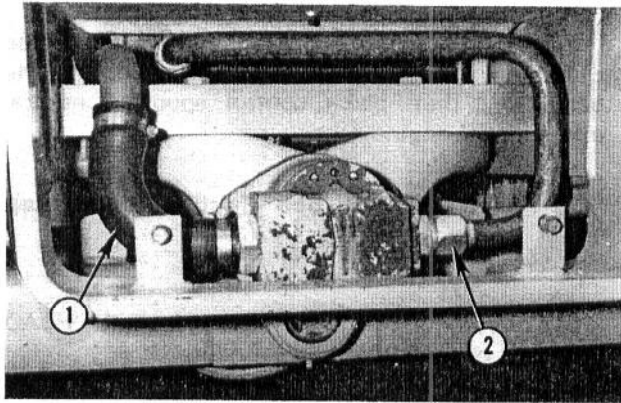

Fig. 25 — Typical Pump Installation — MF 40B w/MF 34A Loader Shown
1. Connect a suitable flow meter into "series" with the pump outlet (i.e.: between pump outlet and control valve inlet) ... see Figs. 25 and 26.